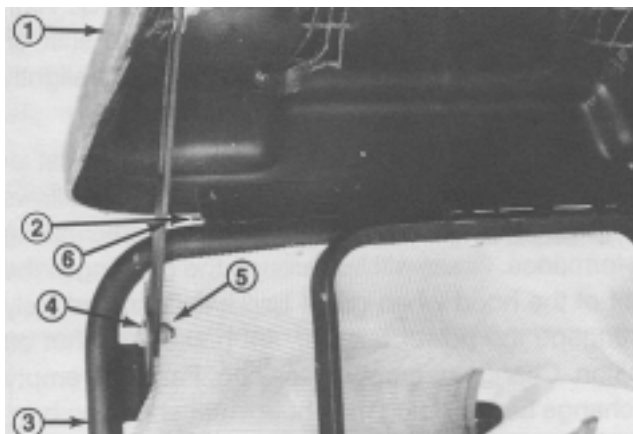

Figure 6
3. Connect hood assembly to upper support tube assembly with hinge pin (Fig. 6).